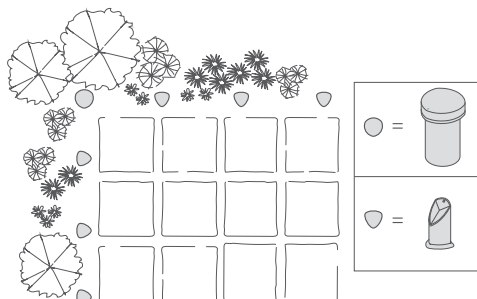

Figure 1
- Each bollard speaker will cover a listening area of approximately 50-150 square feet. Make sure to use enough BL Series bollards to provide adequate coverage and volume. See the example layout in Figure 1.